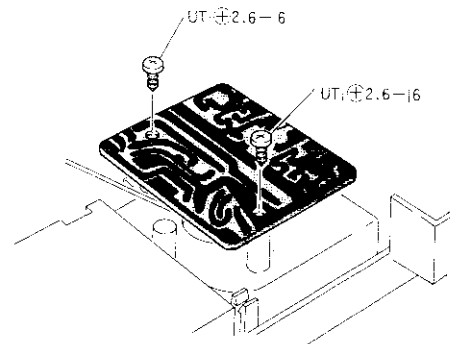

Fig. 7
- 1) Remove 2 screws. (Refer to Fig. 7)